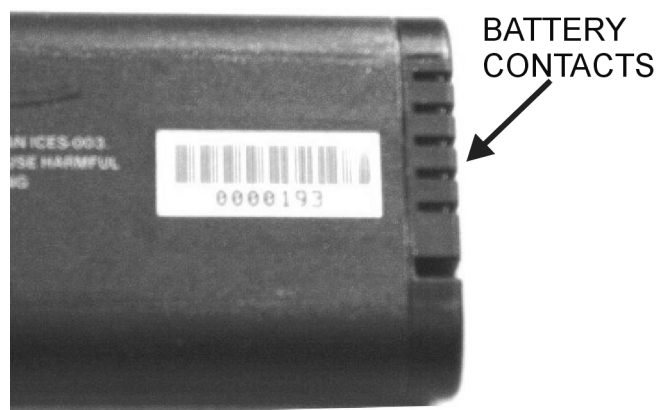

Figure 4-4. Battery Contacts
- Replacement is the opposite of removal. Note the orientation of the battery contacts, and be sure to insert the new battery with the contacts facing the bottom of the instrument (Figure 4-4).